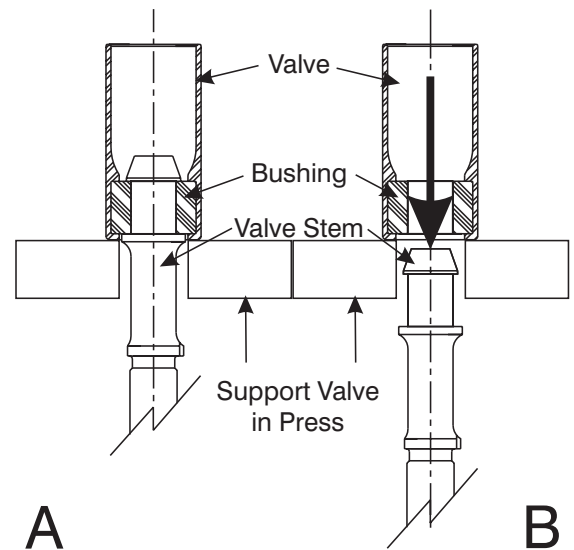

Figure 8-17. Valve and Components in Press.
1. Refer to Figure 8-17-A, and block the Valve (6) and Valve Stem (4) in an arbor press:
2. Press the Valve Stem (4) from the Bushing (5) as shown in Figure 8-17-B.